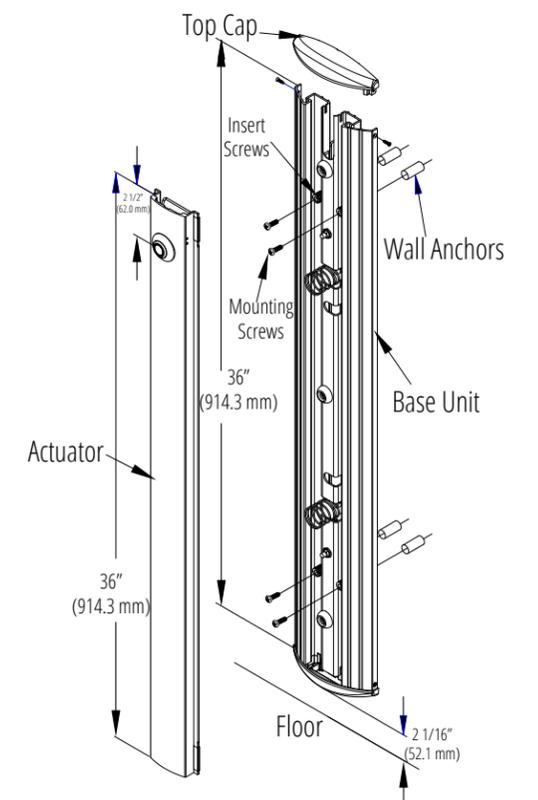

Figure 4.2 Mounting of Base Unit
- (See Figure 4.2 and 4.3 for reference.)
3. Determine/mark the optimum height and mounting location from the finished floor to mount the column switch. The bottom of the Switch should be located between 3" to 8" (76mm to 203mm) off the finished floor as per site conditions or code requirements. See Figure 4.2 for mounting illustration.